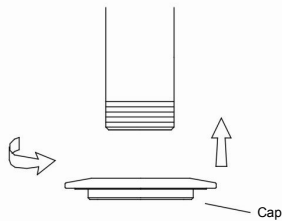

FIG. 20
- D-3.** Drive a cap on the pipe. (FIG. 20)